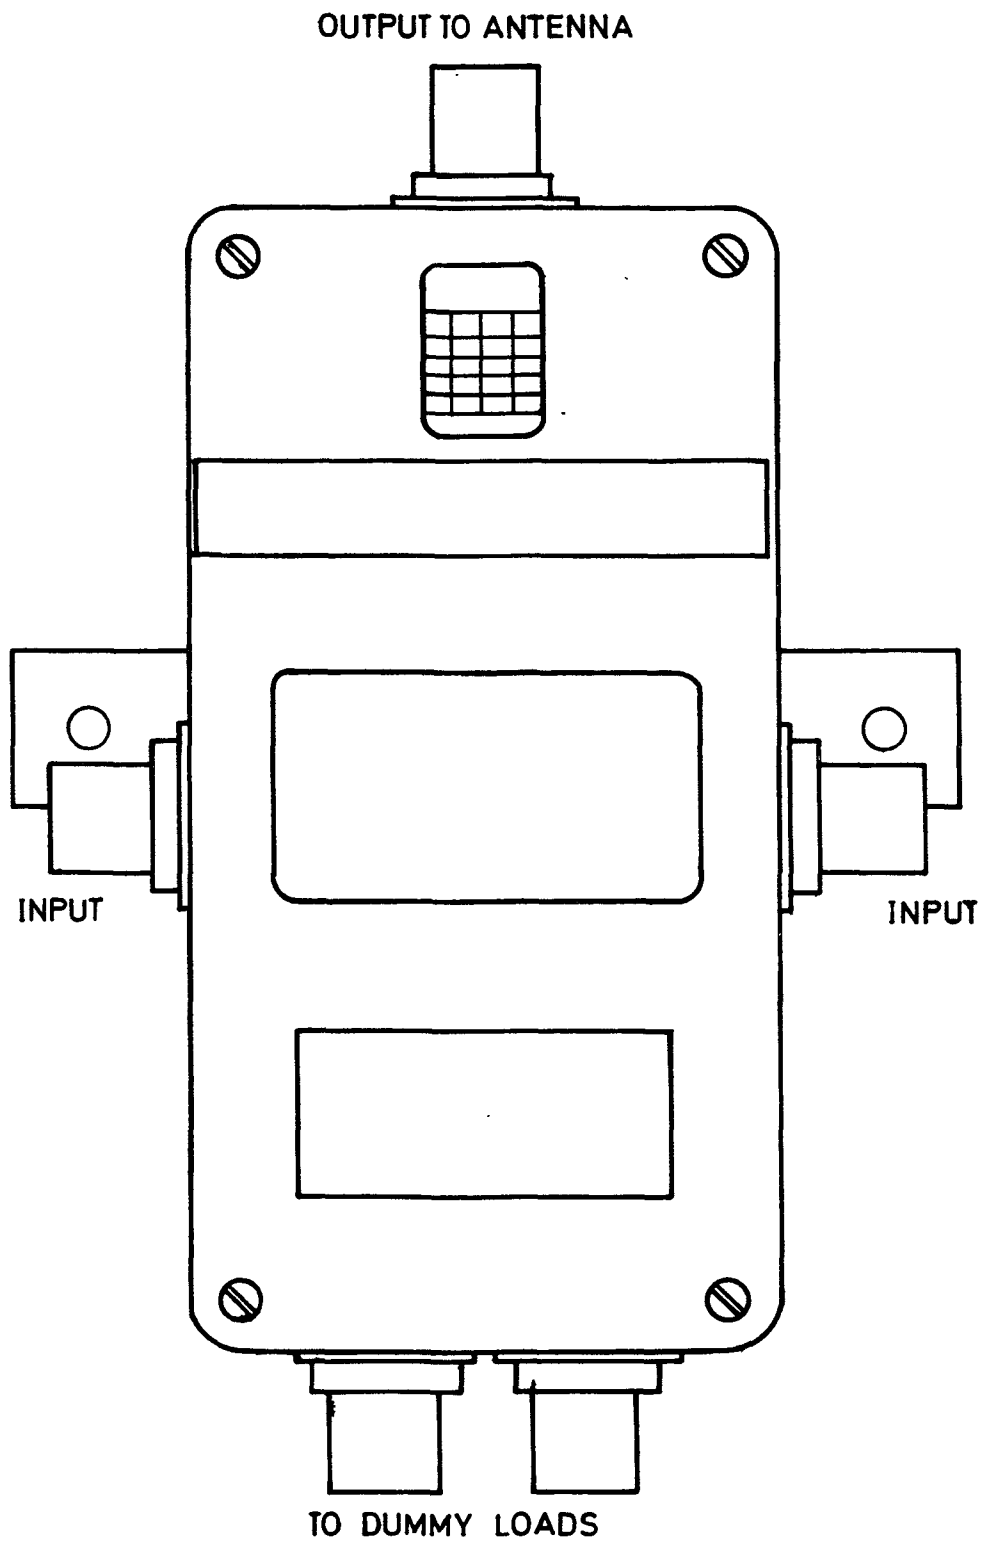

Fig.1 Combiner unit MS.560: top view
7. The r.f. dummy loads (fig.1 of Chap.12-0) provide two low-reflection, non-radiating terminations for the 'ballast' ports of the MS.560.